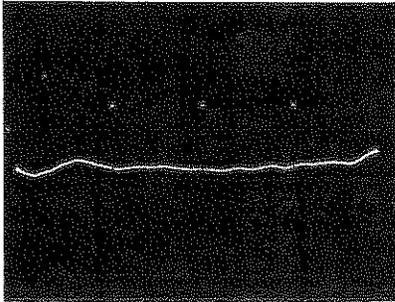

Figure 4-15. Typical Display with Amplitude Markers
- h. Adjust RF Plug-in POWER LEVEL control and oscilloscope controls for display similar to typical display shown in Figure 4-15.